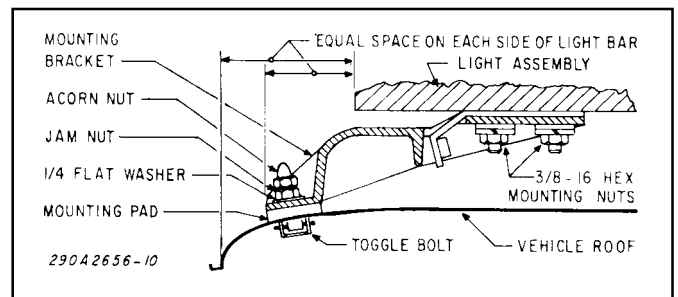

Figure 5.
K. See figure 5. Place the mounting brackets down over the ends of the toggle bolts and secure with the jam nuts. Saw-off the toggle bolts 3/16-inch above the jam nuts and screw-on the cap nuts. The unit should now be solidly anchored to the roof.